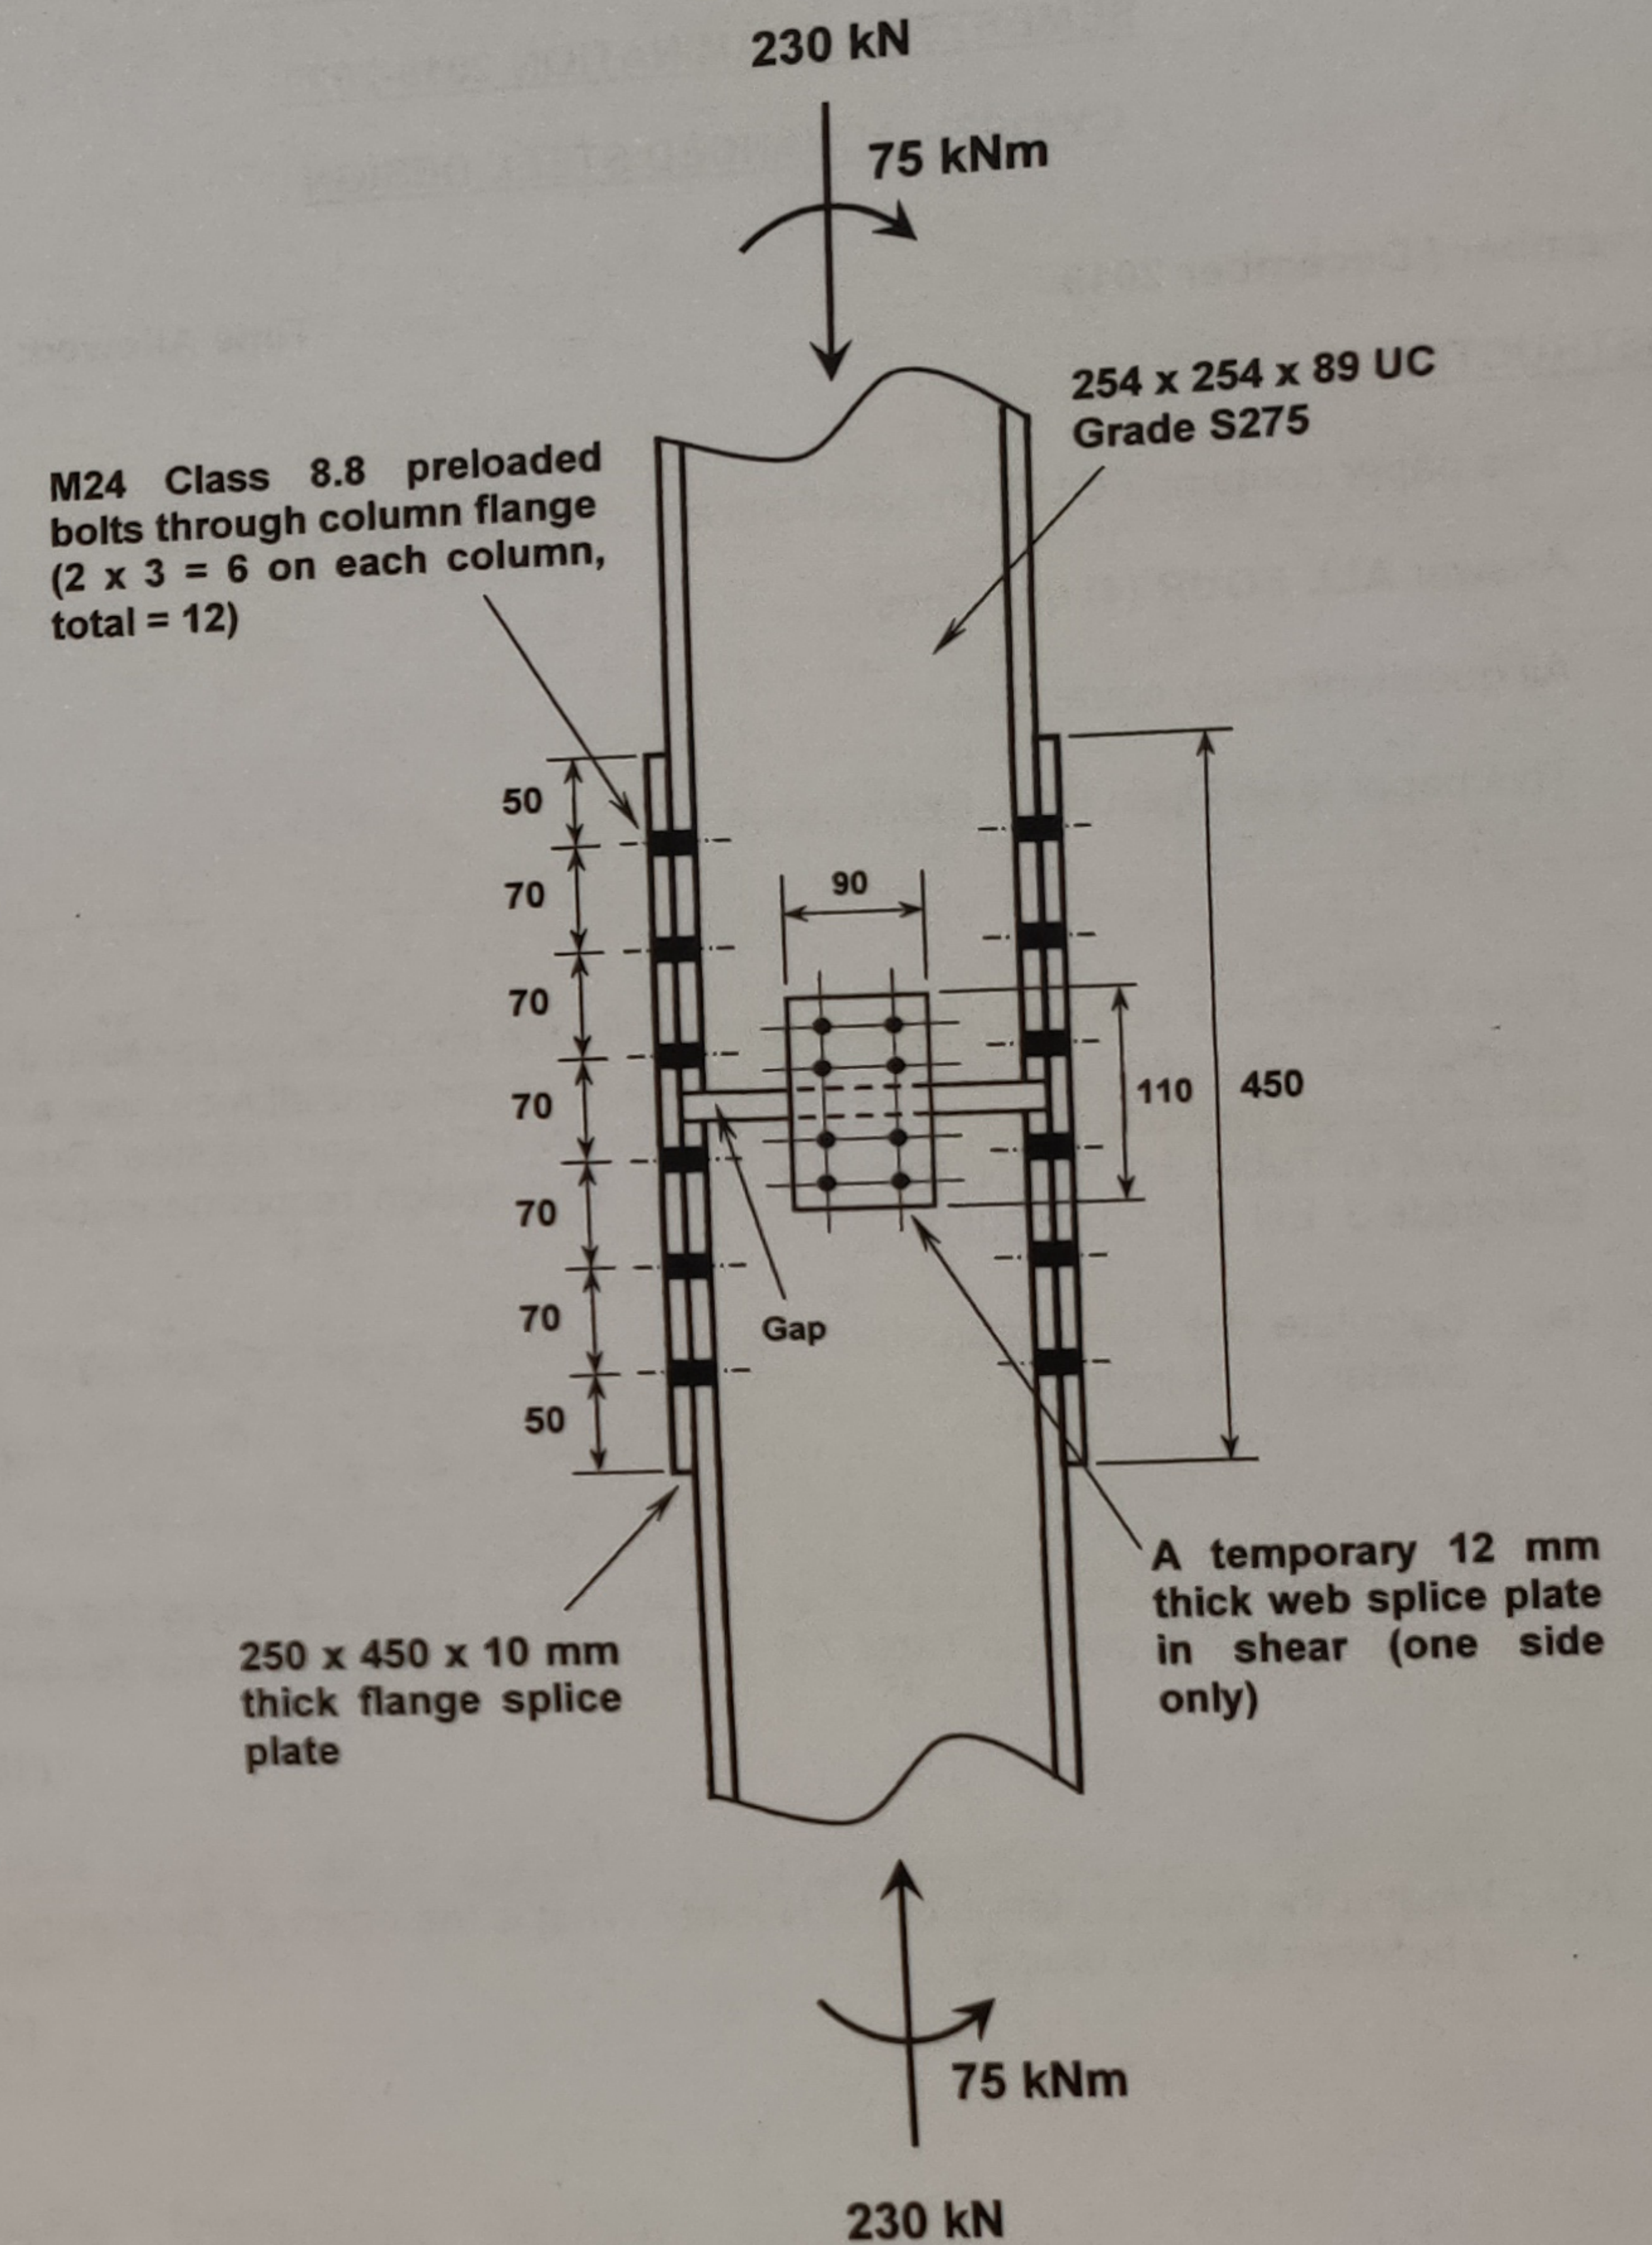

Figure Q2
2. The bolted column splice connection shown in Figure Q2 is required to transmit a design compression of 230 kN and a design moment of 75 kNm, respectively. The flange splice plate dimensions are 250 mm x 450 mm x 10 mm thick, and it is in Grade S275 steel. The column is made from 254 x 254 x 89 UC of Grade S275, and M24 Class 8.8 preloaded bolts in Grade S275 with standard clearance holes used to connect the splice plate and the column flange.